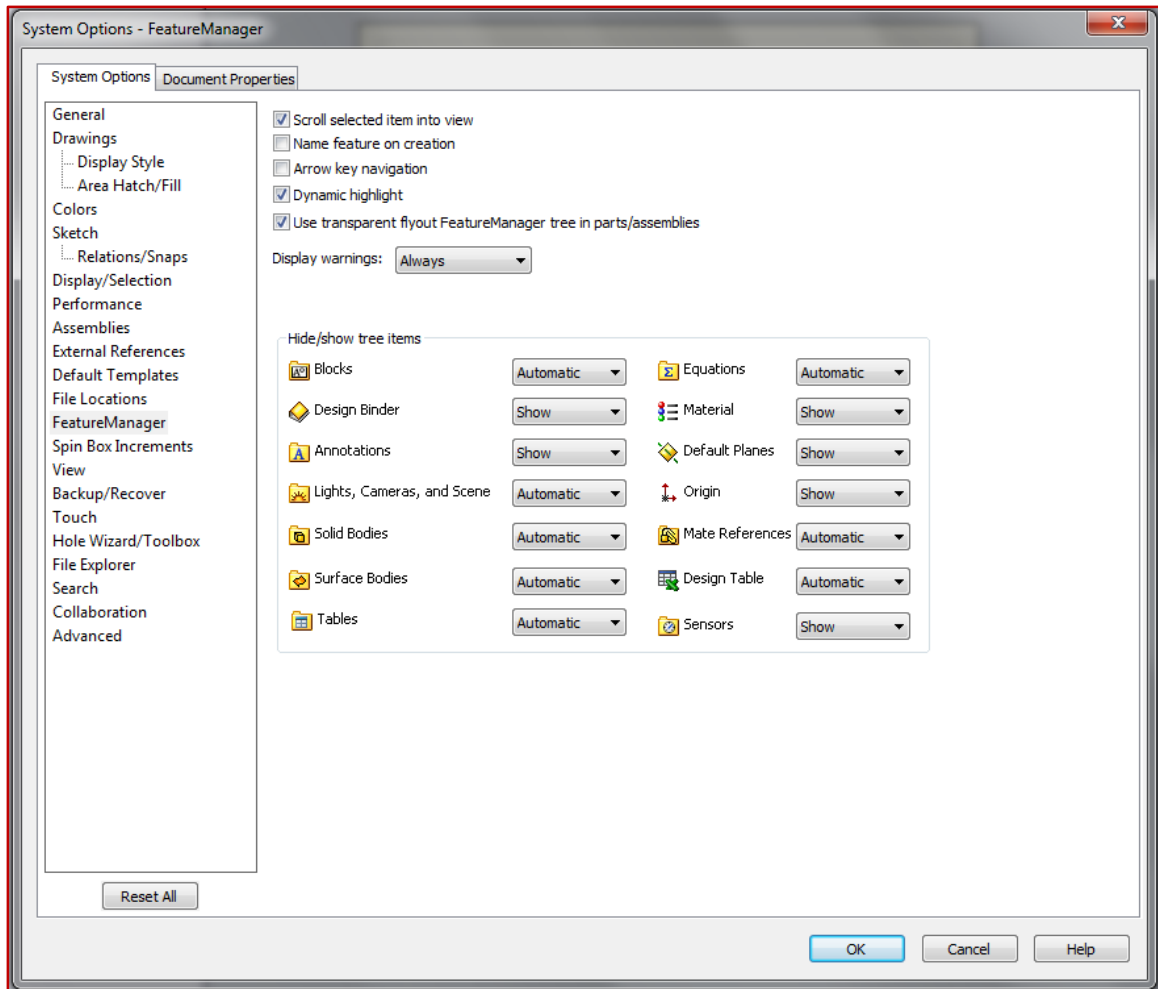

Figure 12.3 – Tools→Options→System Options
- ✓ Click on **Tools→Customize** on the **Main Pull-down Menu** or on **Options→Customize** on the **Quick Access Toolbar** and select the **Toolbars** tab to get the dialog box in Figure 12.3.
- ✓ Verify that in **Context toolbar settings**, **Show on selection** and **Show on shortcut menu** have a check mark. See Figure 12.3.